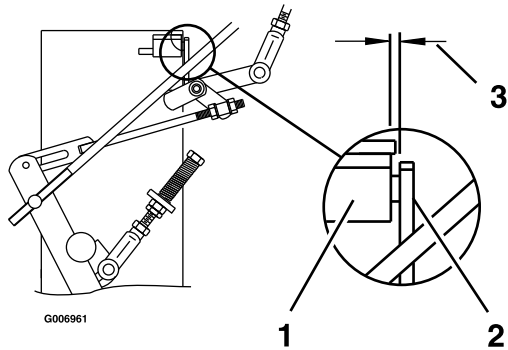

Figure 15
2. Move the speed control lever (located on the console) to the full forward position and check the orientation of the tabs on the ends of the speed control crank (see Figure 15). These tabs should be pointing straight down at the 6 o'clock position or slightly forward.
Adjust the threaded yoke at the bottom of the speed control linkage (see Figure 15) until the tabs are positioned correctly.
- Pull the speed control lever back to neutral. Check that the neutral safety switch actuating tab has depressed the plunger of the switch so that there is about 5/16 inch (.79 cm) between the tab and the switch (see Figure 15). If necessary, move the switch fore and aft.